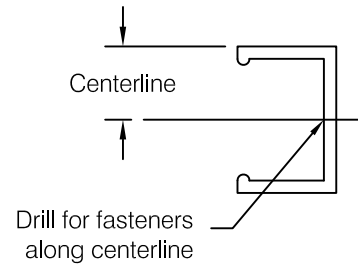

fig 2
Step 3 Pre-drill clearance holes in aluminum retainer along the centerline of the retainer using a #15 (.180 inch) bit for #8 fastener or a #7 (.201 inch) bit for #10 and 3/16 inch fasteners, see **fig. 2**. Space holes at 32 inches on center. Adjust spacing to accommodate studs as necessary. Do not pre-drill at locations that will interfere with installation of molded accessories.